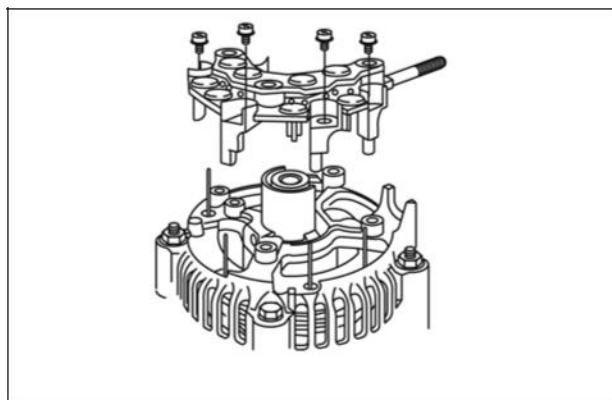

Figure 37
8. Install regulator with screws (A, Figure 37).